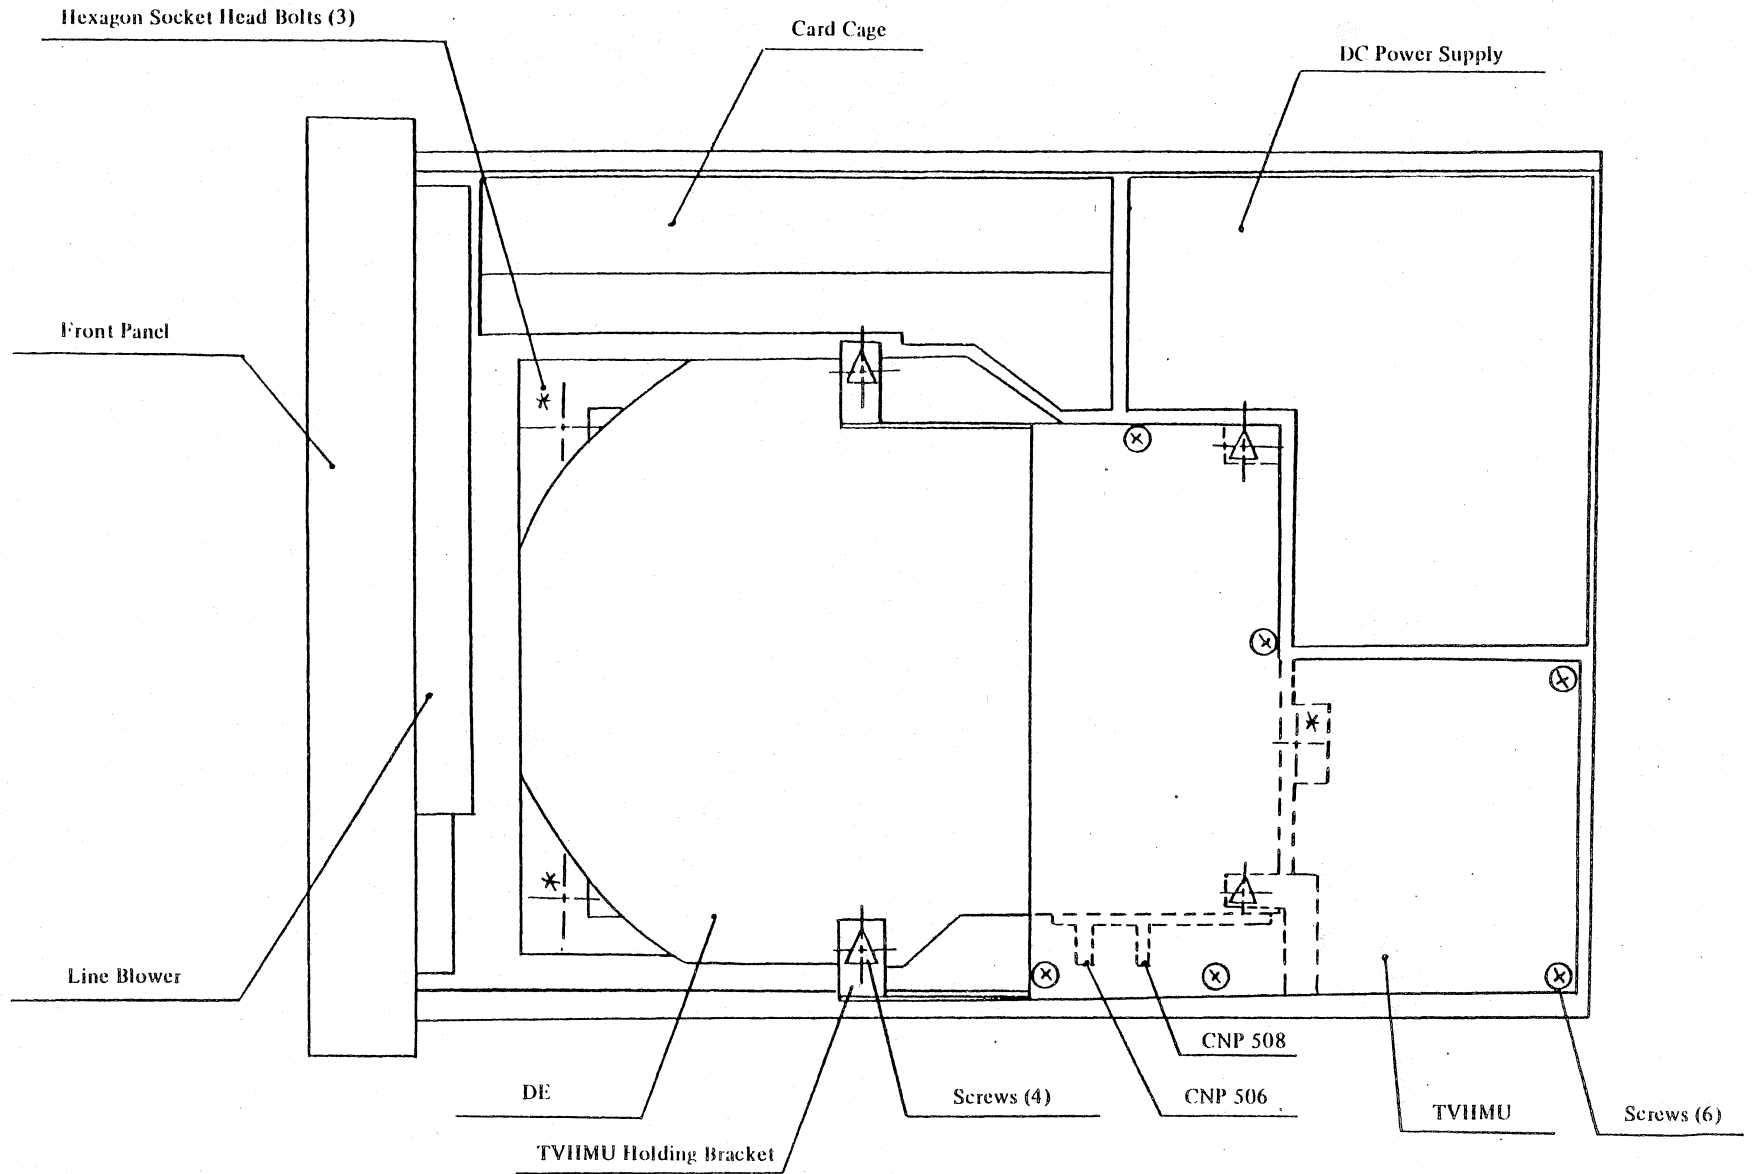

Figure 13.2-1 DE Replacement (Top View) .... Old version
4. Remove the 6 screws (Refer to Figure 13.2-1 ~~A~~) holding the TVHMU PCB and remove the entire TVHMU PCB.
5. Remove the 4 screws (Refer to Figure 13.2-1 ~~A~~) holding the TVHMU mounting bracket.
10. Remove the three hexagon socket-head bolts (Refer to Figure 13.2-1,\*) from the shock mounts.
3. Remove the screw (Refer to Figure 13.2-1) and the wire.
8. Remove the three hexagon socket-head bolts (Refer to Figure 13.2-1, \* ) from the shock mounts.